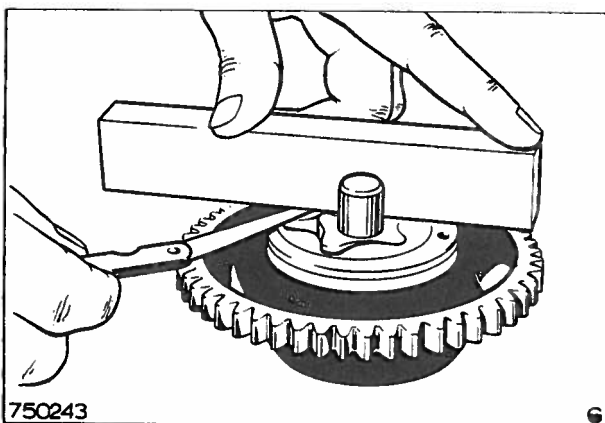

Fig. 7 Checking rotor end-float.
4. Place a straight edge across the face of the pump body Fig. 7 and check the clearance between the face of the rotor and the straight edge (see Specifications). If the clearance is excessive, the face of the pump body must be relapped. Examine the end cover for wear or damage and renew if required.